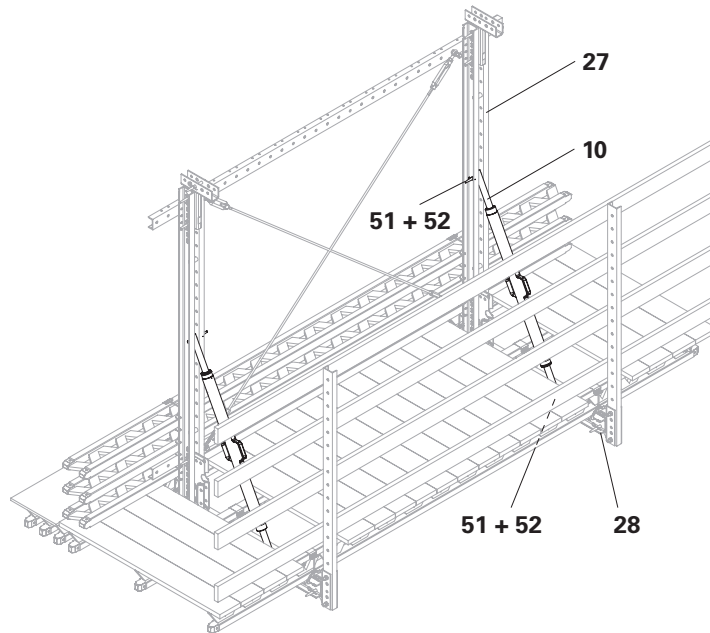
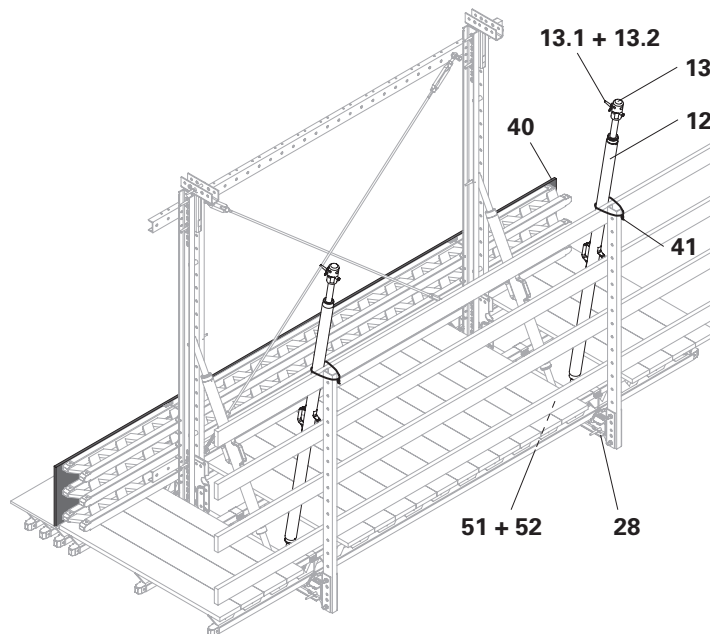

Fig. B4.15
Fig. B4.16
⇒ Only release the side formwork from the crane when the heavy-duty spindles (10) have been fitted (Fig. B4.15).
4. Bolt the Heavy-Duty Spindles SLS (10) to the Steel Walers Universal SRU (27+28) of the slab formwork and side formwork with fitting pins  $\text{Ø } 21 \times 120$  (51) and secure with cotter pins 4/1 (52). The Heavy-Duty Spindles SLS (10) serve as temporary support.
5. Remove the crane lifting gear. (Fig. B4.15 + B4.17)
6. Connect the Heavy-Duty Spindles SLS (12) to the Steel Walers Universal SRU (28) of the slab formwork with fitting pins  $\text{Ø } 21 \times 120$  (51) and secure with cotter pins 4/1 (52).
7. Bind the Heavy-Duty Spindles SLS (12) tightly to the guardrails using binding wire (41) and secure them to prevent them from toppling over.
8. Fit Spindle Adapters SLS/RCS (13) onto the thread of the Heavy-Duty Spindles SLS (12). Connect them with fitting pins  $\text{Ø } 21 \times 120$  (13.1) and secure with cotter pins 4/1 (13.2).
9. Fasten the formlining (40) to the Formwork Girders GT 24 of the side formwork with wood screws or wire nails. (Fig. B4.16 + B4.17)